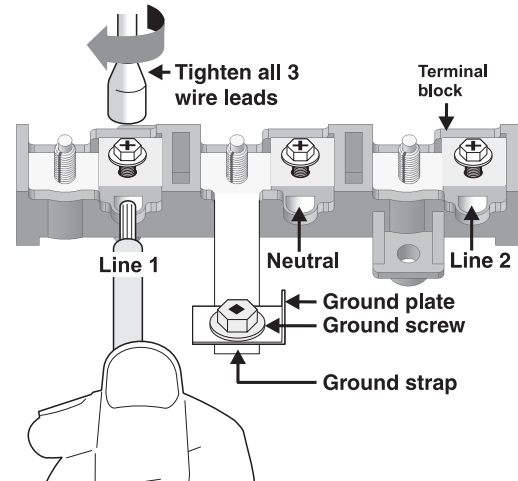

Fig. 14
2. (3 & 4 - Wire Permanent Connections) Strip insulation away from the ends of the permanent wiring for Line 1, Line 2, Neutral (also strip ground wire on 4-Wire Connections). Tighten all 3 wire leads to the terminal block (Follow wire locations shown in Fig. 14).